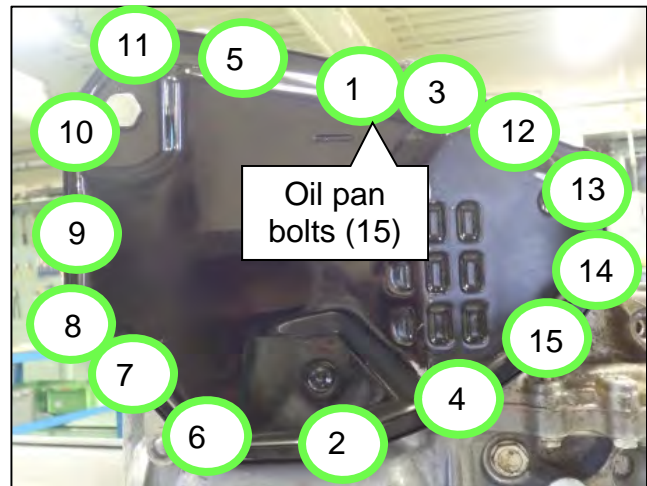

Figure 204
- Tighten the CVT oil pan bolts in the sequence shown (Figure 204).